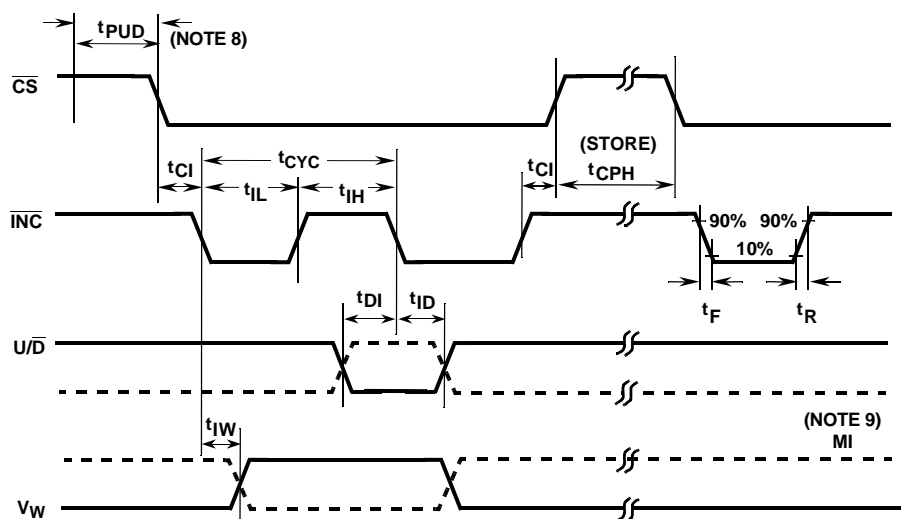

FIGURE 3. ISL45007, ISL45008 TIMING DIAGRAM
- 9. MI in the AC Timing diagram (Figure 3) refers to the minimum incremental change in the wiper output due to a change in the wiper position.